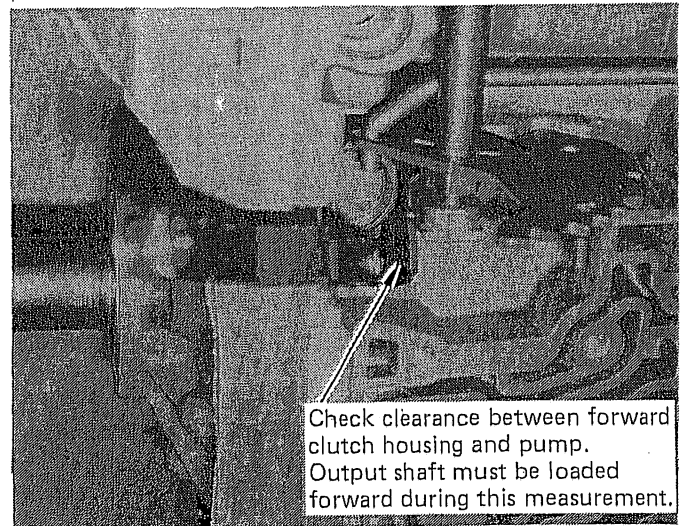

FIGURE 49
**STEP 18.** Check end play of input shaft. This can be done using a dial indicator on the end of the input shaft or by using feeler gages between the pump and forward clutch housing. (See Fig. 49) The output shaft must be loaded forward so keep the transmission on its output shaft. End play should be 0.003 - 0.024". End play can be adjusted using selective washers available from your GM dealer on the back of the pump.